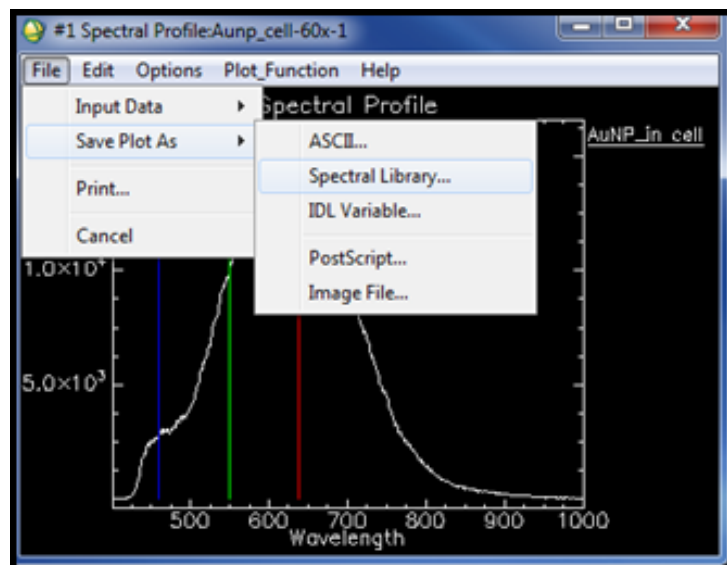

Figure 5.2f. Saving endmember to spectral library file
- Then select the Spectral Library (Figure 5.2f).